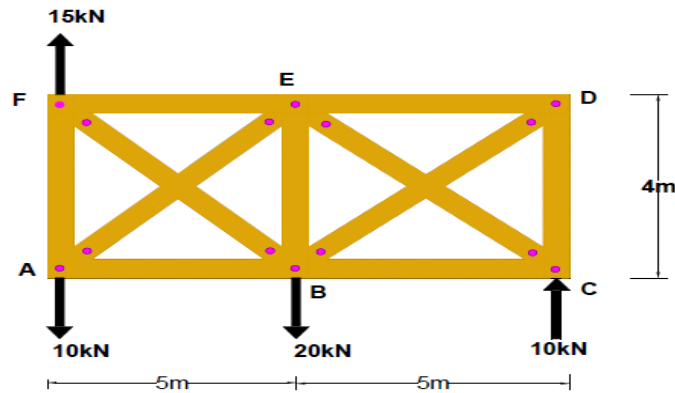

Fig 7
- (b) Analyse suspension cable has a span of 110 m and a central dip of 10 m and is suspended from the same level at both ends. The bridge is stiffened by a stiffening girder hinged at end supports. The girder carries a single concentrated load of 125 kN at 25 m from left end. Assume equal tension in the suspension hangers. Evaluate the horizontal tension in the cable and the maximum positive bending moment in the girder. CO4-Ana (16)
- 15 (a) Analyze (approximately) the forces in the members of the truss shown in Fig 7. The diagonals are to be designed to support both tensile and compressive forces, and therefore each is assumed to carry half the panel shear. The support reactions have been computed. CO5-Ana (16)